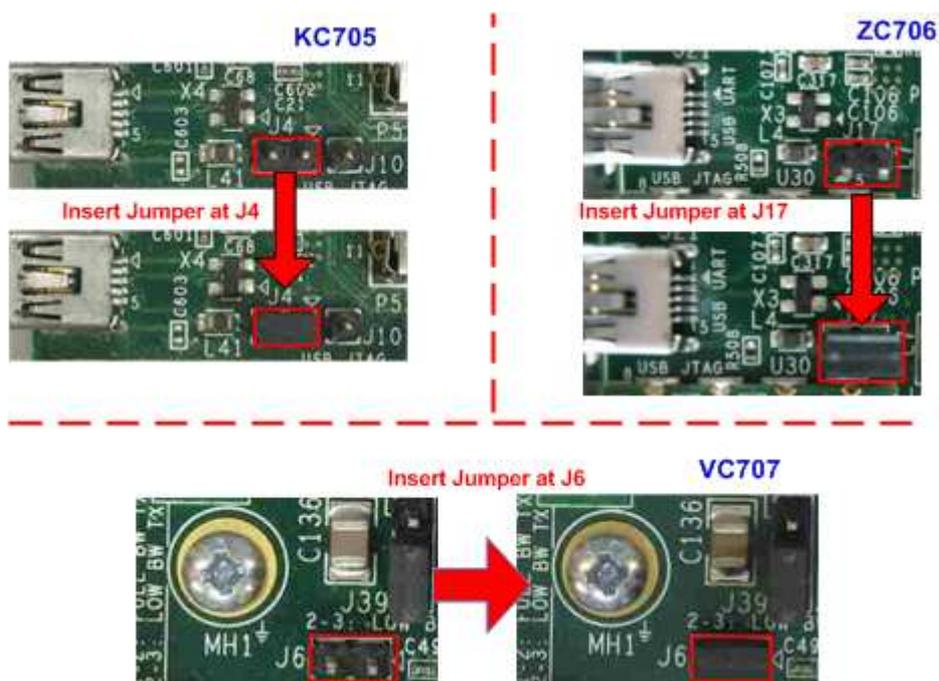

Figure 4 Insert jumper to enable SFP+
- Insert jumper to enable SFP+ (J4 for KC705, J17 for ZC706, or J6 for VC707), as shown in Figure 4.